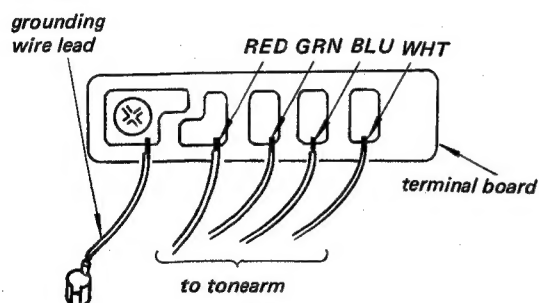

Fig. 2-5
1. Unsolder the output leads from the tonearm on the terminal board as shown in Fig. 2-5.